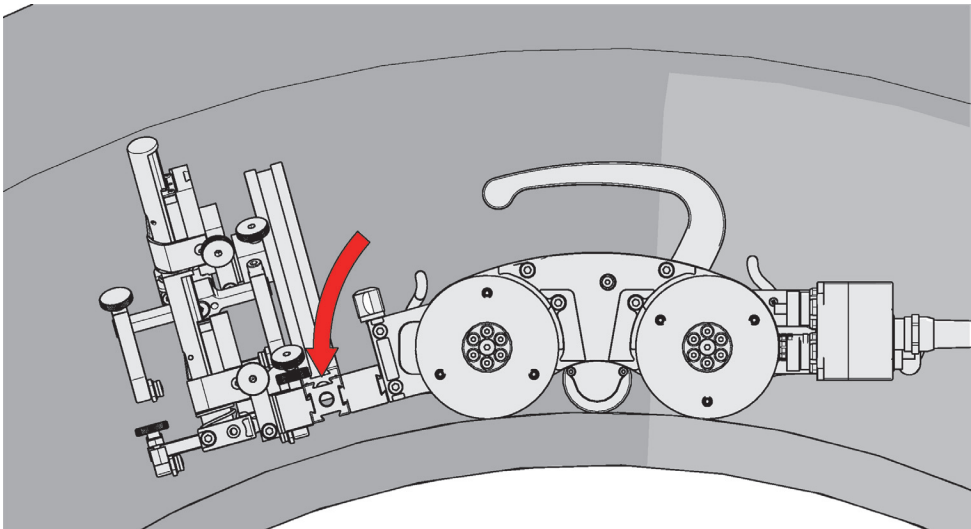

Figure 2-118 Align swivel mount with scan surface
3. Release the front swivel mount adjustment levers to align the swivel mount parallel to the scan surface (see Figure 2-118 on page 139).